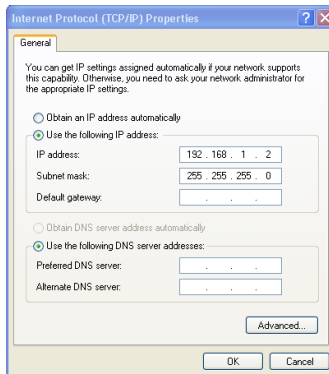

Figure 7: Internet Protocol (TCP/IP) Properties Window
5. Select **Use the following IP Address**¹, and fill in the details as shown in Figure 7.